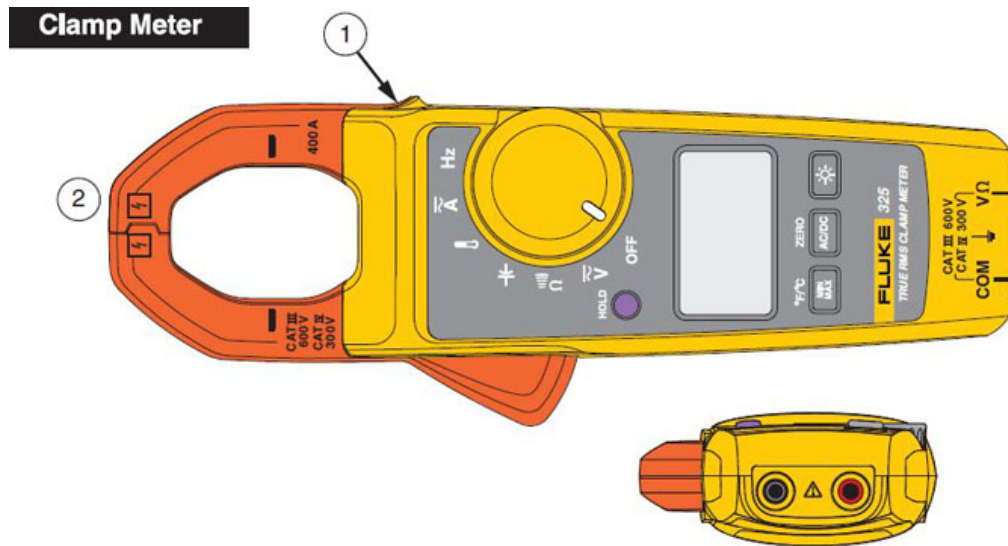

Figure 2-19. Clamp on Ammeter.
- Hold the product behind the tactile barrier. See figure 2-19, item 1.